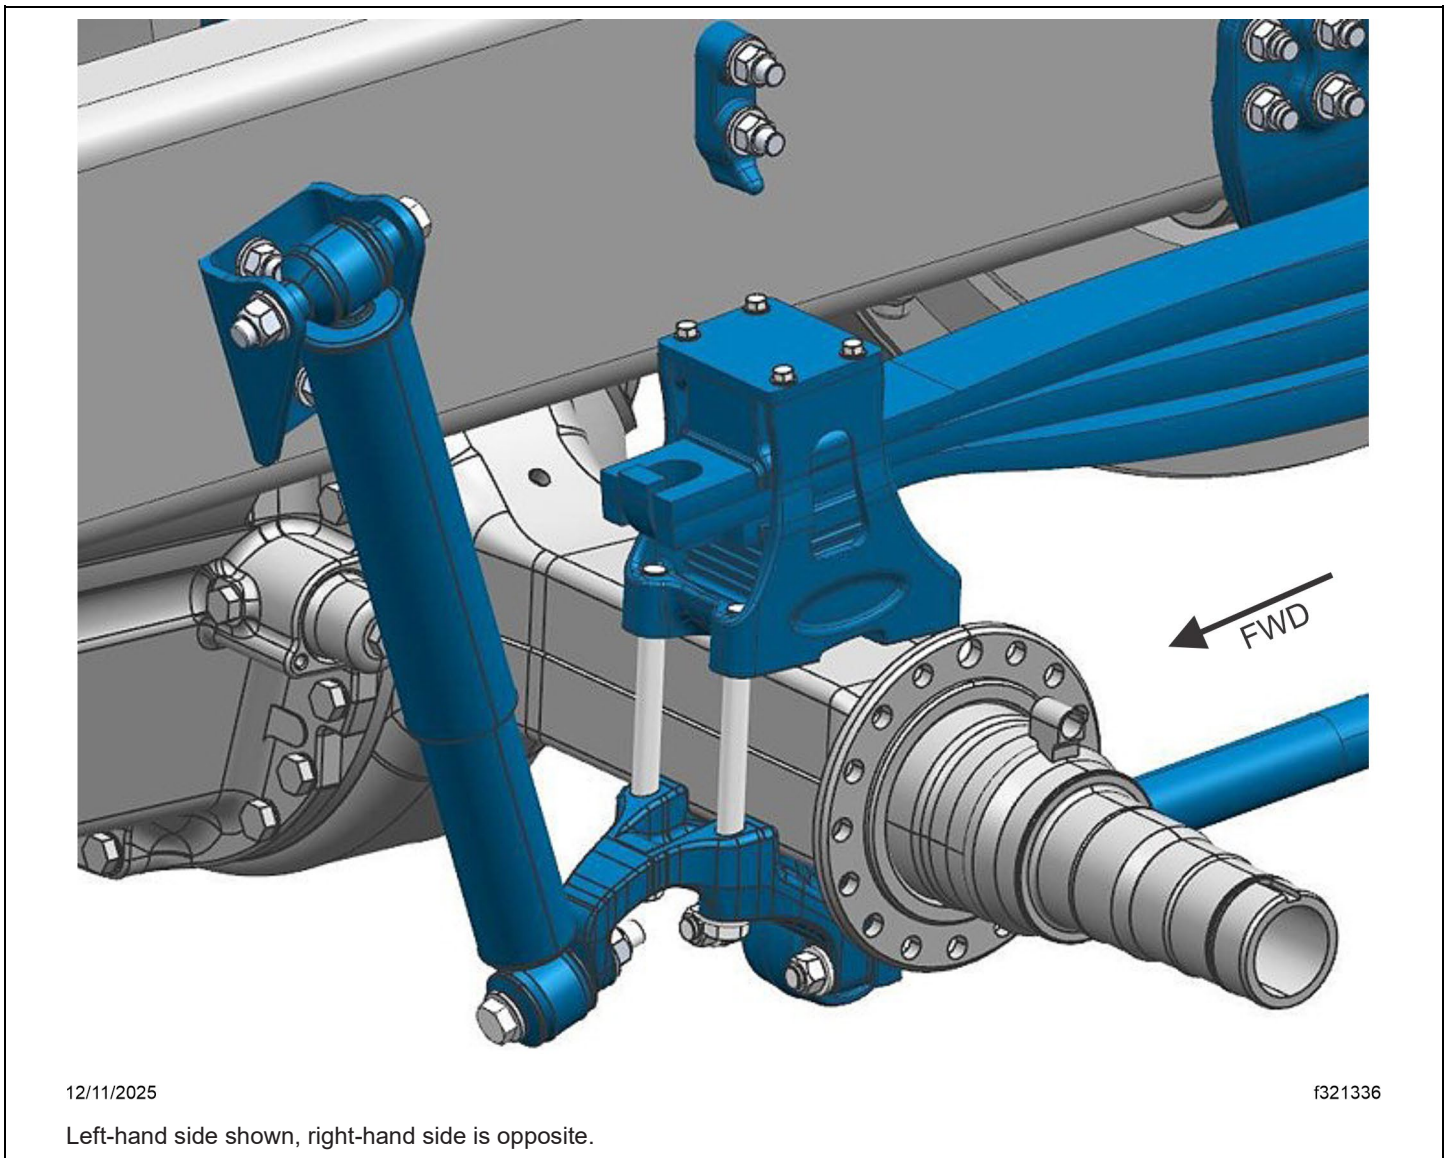
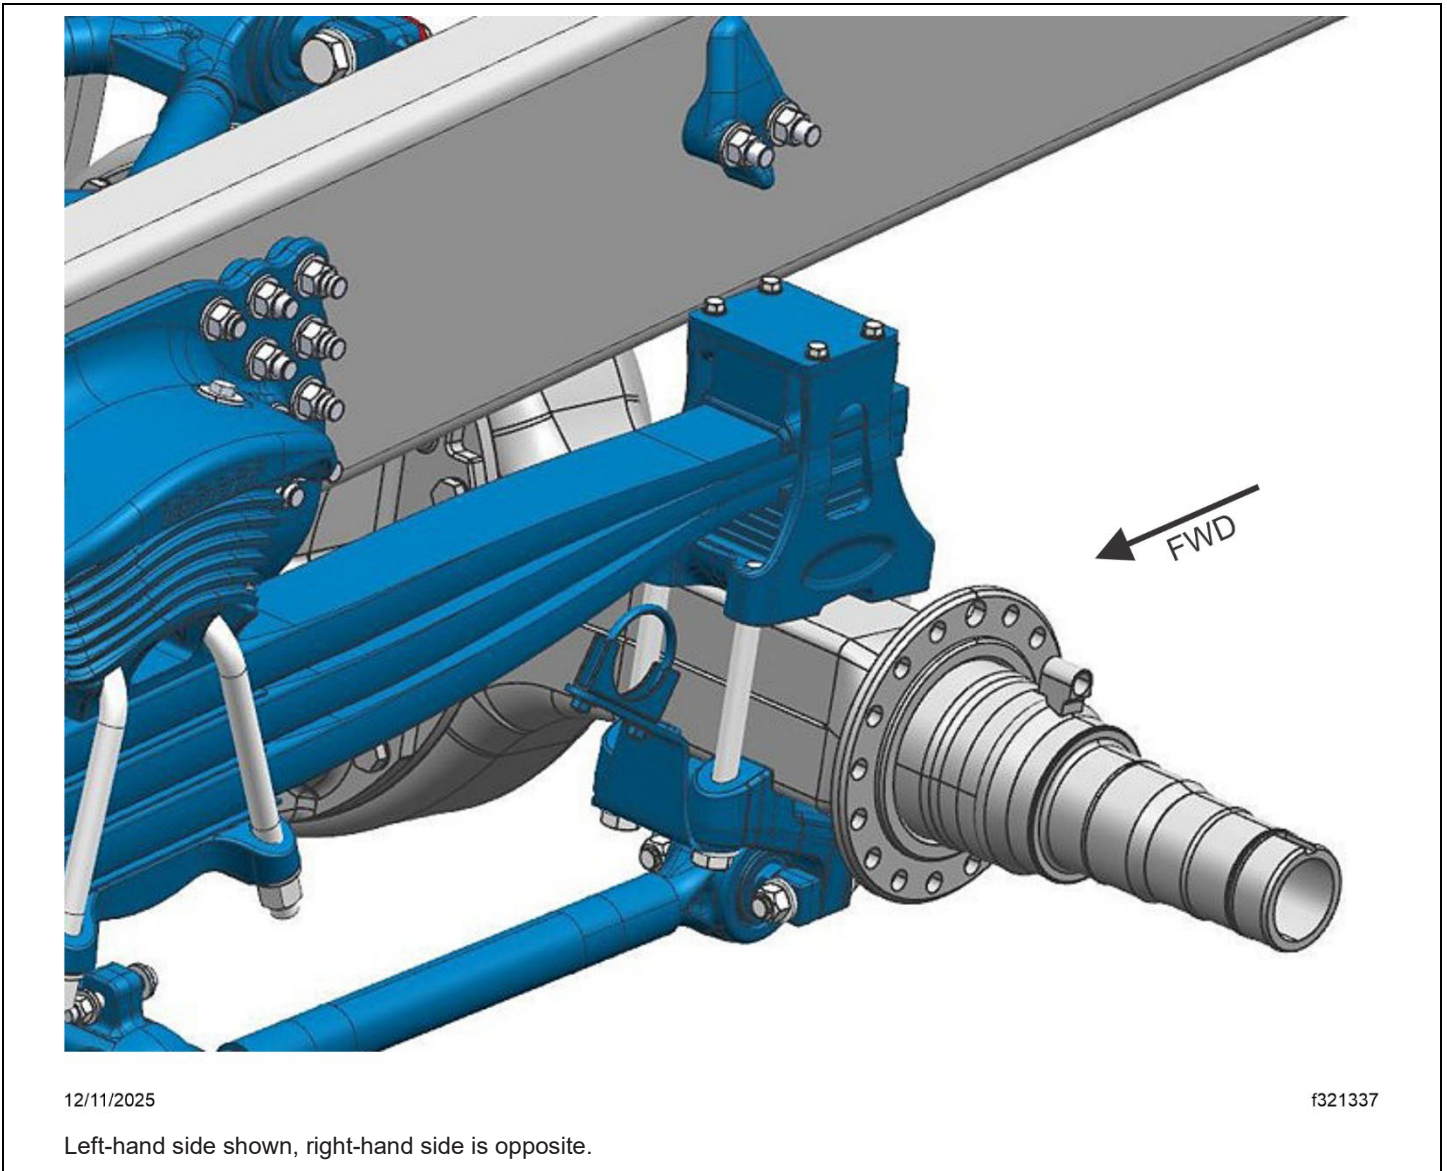

Fig. 1, Clamp Group, Forward Drive Axle
Fig. 2, Clamp Group, Rear Drive Axle
6. Inspect the clamp group for damage and to verify the torque. See **Fig. 1** and **Fig. 2**.